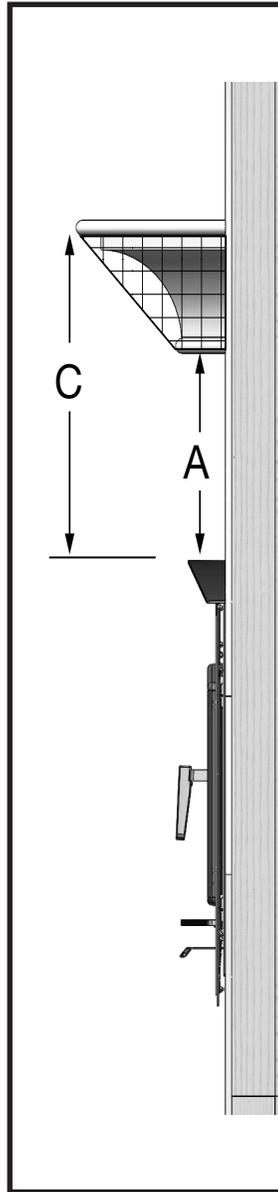

Figure 39: Mantel clearances.
**With Craftsman Only - Graduated Mantle (Figure 39)**